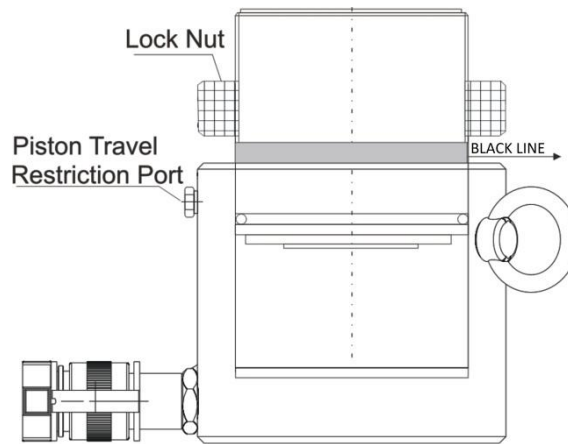

Figure 3 – Maximum Piston Extension
- To prevent piston over-extension, a port is provided to vent the oil out of the cylinder as the piston reaches the maximum stroke. When the **BLACK LINE** around the piston becomes visible, the piston is at maximum extension. Further extension could result in the piston being forced out of the cylinder (see Figure 3)